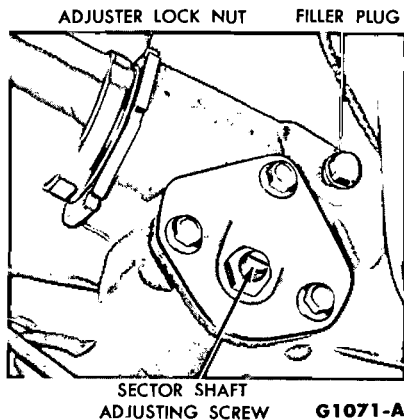

FIG. 3—Steering Gear Adjustments
6. Loosen the nut which locks the sector adjusting screw (Fig. 3), and turn the adjusting screw counter-clockwise.
8. Loosen the steering shaft bearing adjuster lock nut, and tighten or back off the bearing adjuster (Fig. 3) to bring the preload within the specified limits.